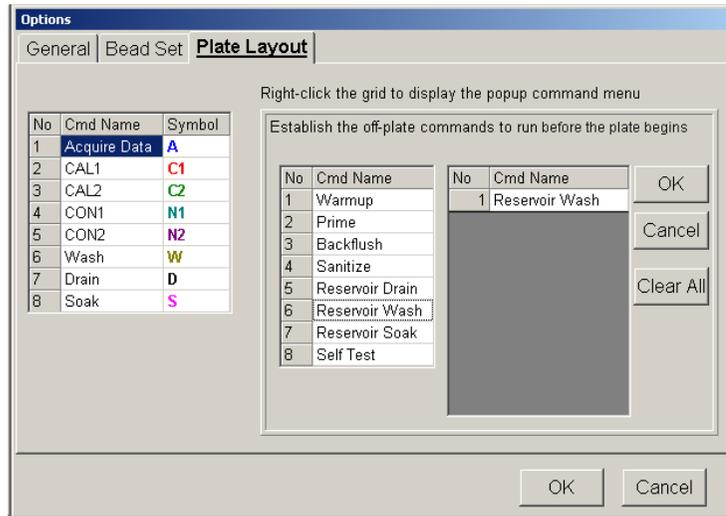

Figure 40 Plate Layout Tab, Off-Plate Commands
11. Establish preliminary off-plate commands. The system performs preliminary off-plate commands before the first well command. To establish a preliminary off-plate command, right-click anywhere over the plate layout and select **Preliminary Off-Plate Cmd(s)** from the menu. The command list dialog box appears similar to Figure 40.